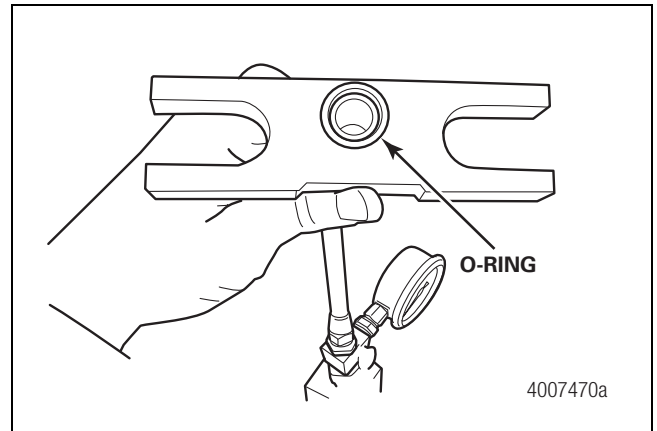
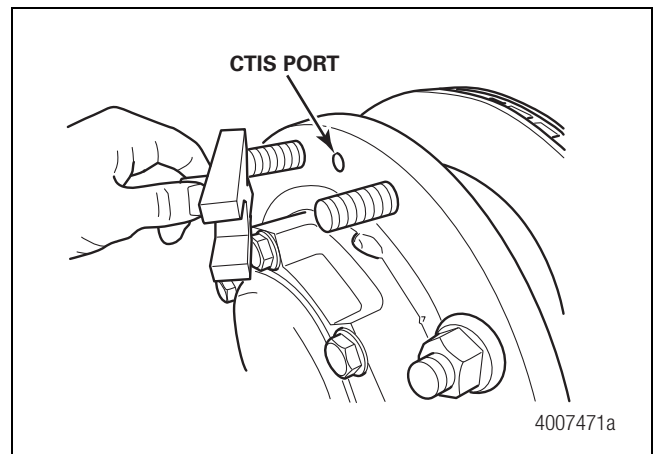

Figure 19.12
Figure 19.13
7. Position the air test block with O-ring over the two wheel studs adjacent to the CTI port on the wheel hub flange. Position the clamp plate so that the O-ring is centered over the CTI port. Figure 19.12 and Figure 19.13.